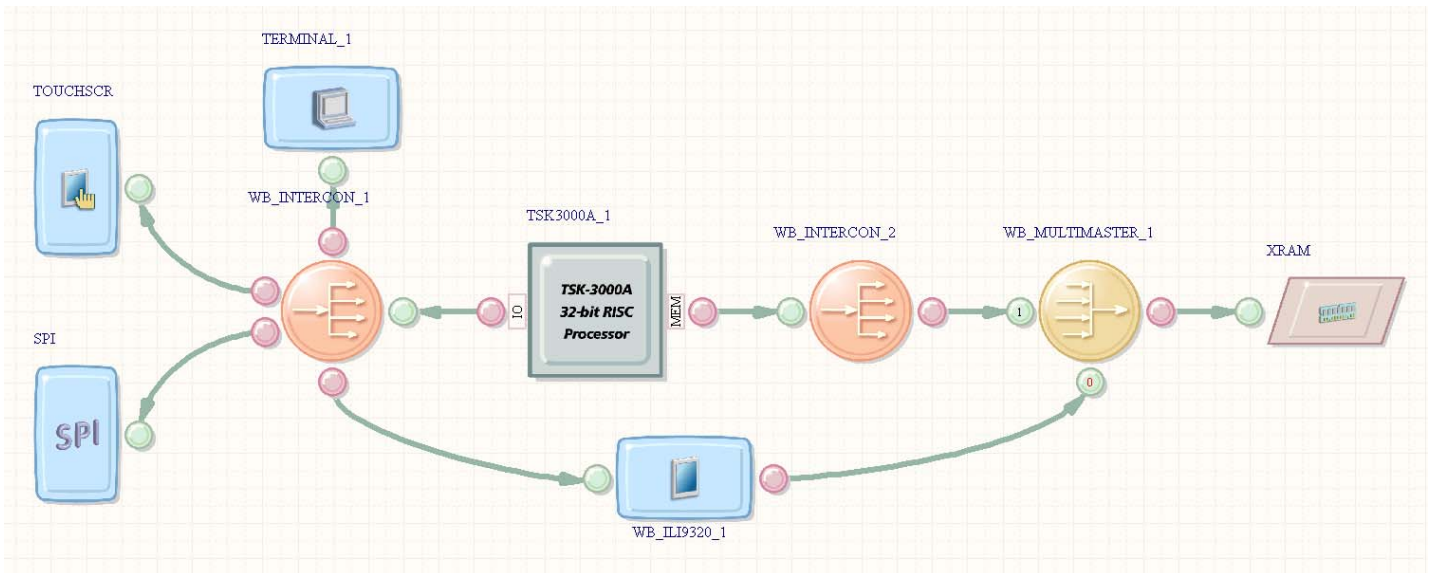

Figure 1. OpenBus System for the TFT\_TOUCH design.
3. Join up the components as shown in Figure 1.
4. Configure the SRAM controller (called XRAM in Figure 1) to be Asynchronous SRAM, 1 MB (256K x 32-bit), 2 x 16-bit Wide Devices.
6. Make sure the TFT controller (designator WB\_ILI9320\_1) is the high-priority master (0) to the Arbiter (designator WB\_MULTIMASTER\_1), then save your work.